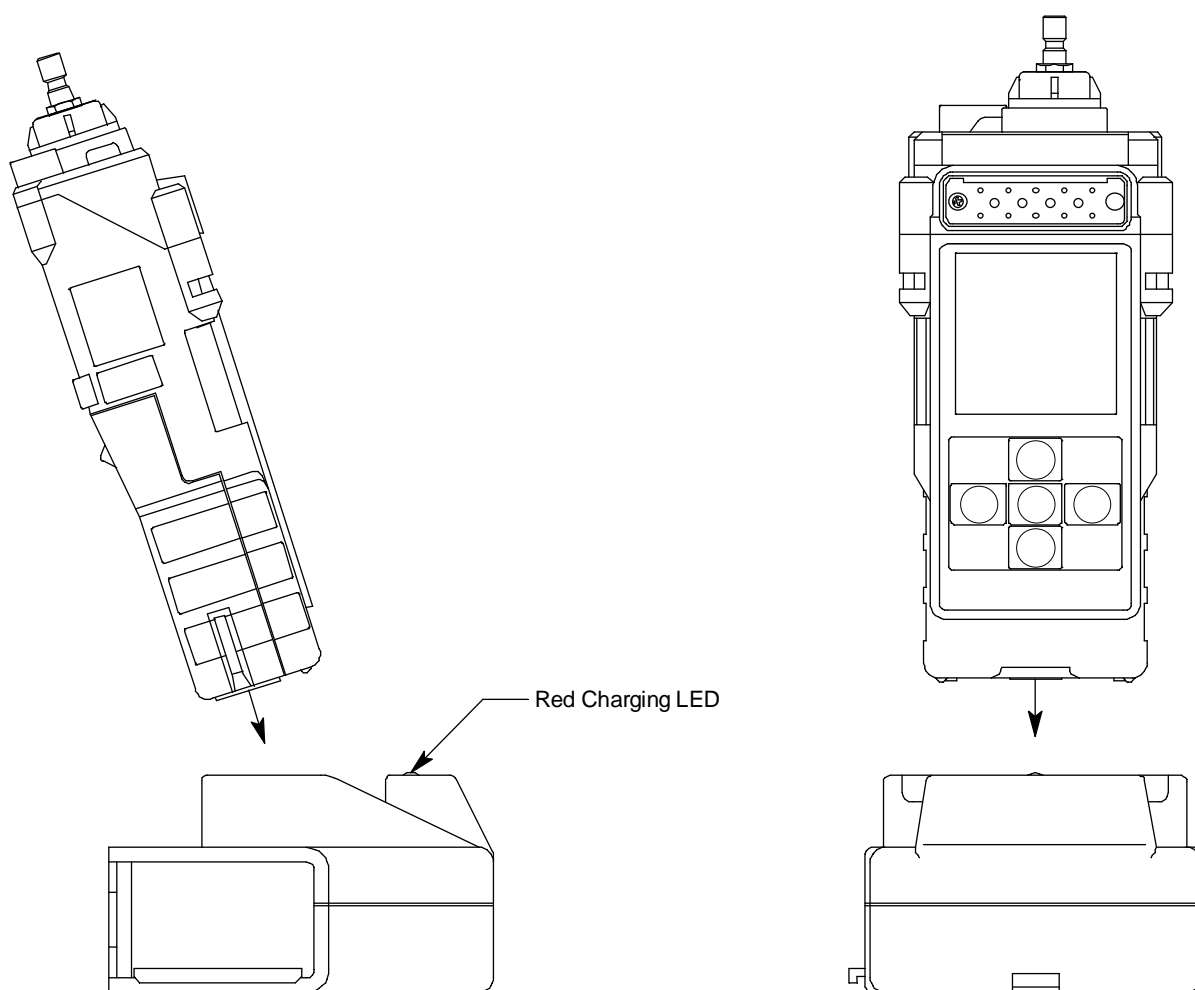

Figure 22: Putting the GX-2012 into the Charging Station
4. Place the GX-2012 into the battery charging station as shown in Figure 22 below so that the metal contacts on the back of the unit come into contact with the metal contacts on the back of the holder in the charging station. When proper contact has been made, the red LED on the charging station will turn on.